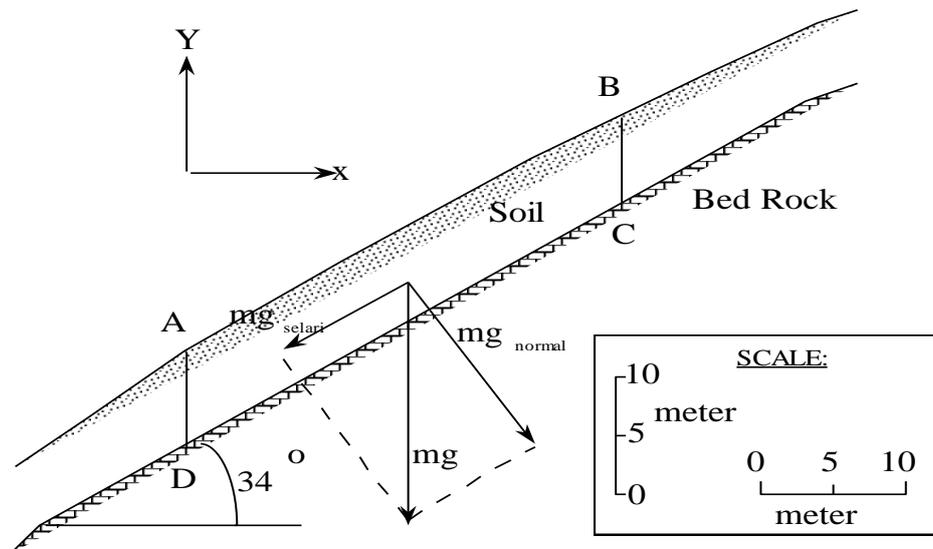

Figure 3
2. Figure 3 shows a long slope. A layer of soil lies on top of a slanting bedrock. The shear strength of the soil rock interface is given as  $\sigma \tan 38^\circ + 200 \text{ kPa}$ . The unit weight of the soil is  $18 \text{ kN/m}^3$  while the unit weight of the rock is  $25 \text{ kN/m}^3$ .
- a. For a unit width of the slope (thickness in the z direction is 1.0 m), determine the weight of the block ABCD ( $mg$  in Figure 3). Determine the component of the weight in the direction normal to the surface of the bedrock ( $mg_{normal}$  in Figure 3). Determine the component of the weight in the direction parallel to the surface of the bedrock ( $mg_{parallel}$  in Figure 3).